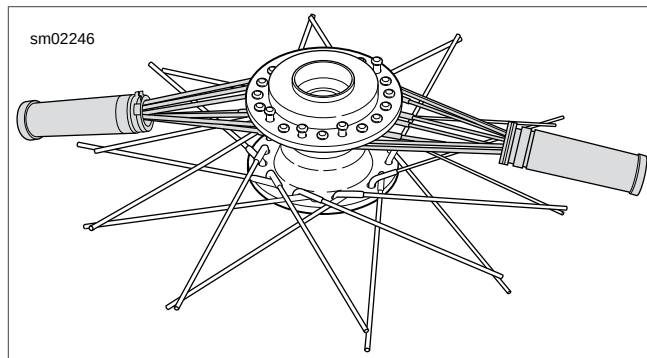

Figure 2-32. Bundling Top Spokes
6. See Figure 2-32. With all forty spokes inserted in hub, group all spokes on top flange into two bundles. Secure each group with throttle grips to keep the spokes together.